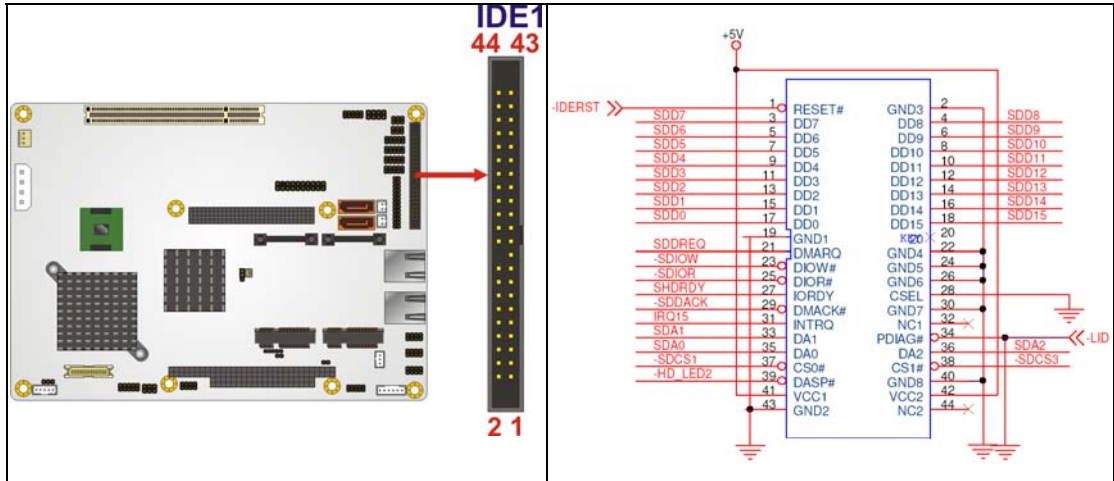

Figure 4-12: Secondary IDE Device Connector Locations
- CN Location:** See Figure 4-12